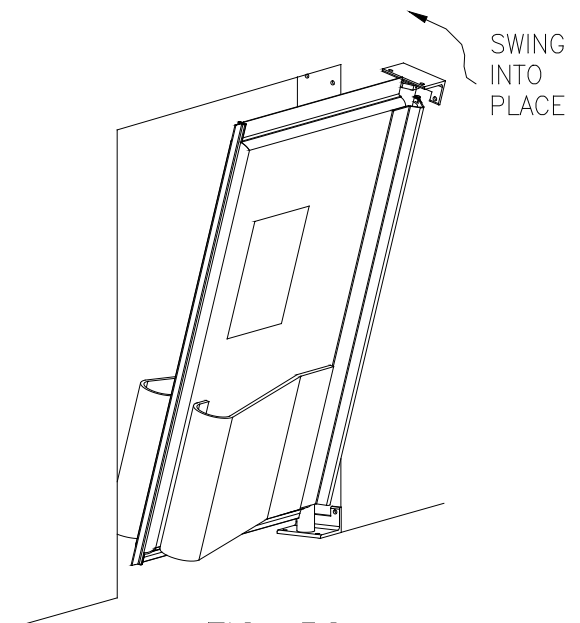

FIG. 5C
- d. **Swing** door panel into place (Figure 5c).